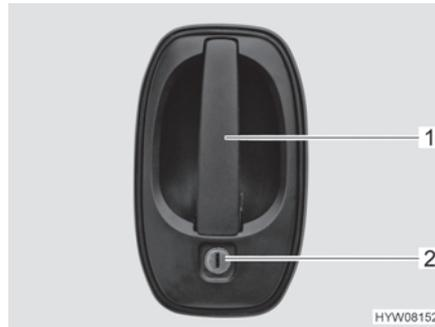

Fig. 61 Door lock (driver's door/conversion door, outside)
- Insert the key into locking cylinder (Fig. 61,2) and turn until the door lock is unlatched.
- Pull on the door handle (Fig. 61,1). The door is open.
- Insert the key into locking cylinder (Fig. 61,2) and turn until the door lock is engaged.